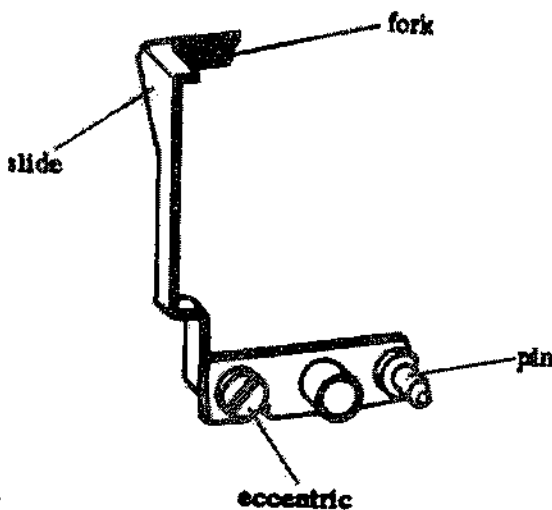

Fig. 51.1
- 1.1 To be able to define the cause of the fault accurately the shutter must first be wound and the winding lever held in position. Move the pin of the lever upwards with the slide (see Fig. 51.1). It must easily move back into its starting position. If it does this, the fault can be cured by lateral displacement of the diaphragm 11.1/1 towards the cassette chamber.
- 1.2 If after the examination described under 1.1 the pin of the lever with slide does not readily return to its original position, find out first by rotating the eccentric for the release on the lever with slide (see Fig. 51.1) clockwise and counterclockwise whether it is possible to obtain free movement. Now check the release points of the photo-resistor and the shutter (see 3.1). If necessary the slide (see Fig. 51.1) must be slightly stretched or upset.
3.1 Place the release gauge 400-071, 204-303 A1 on the release button. The photo-resistor must be released at 0.3 but no release must take place at 0.1. Wind the shutter and hold the photo-resistor in position during release. Slowly swing the photo-resistor out of the film window. The shutter should be released when the rear edge of the photo-resistor still protrudes about 1 - 2mm into the film window. Corrections are possible by adjustment of the eccentric (see Fig. 51.1).
If necessary the slide (see Fig. 51.1) must be slightly stretched or upset. Now the ease of movement of the pin should be checked as described under 1.1.